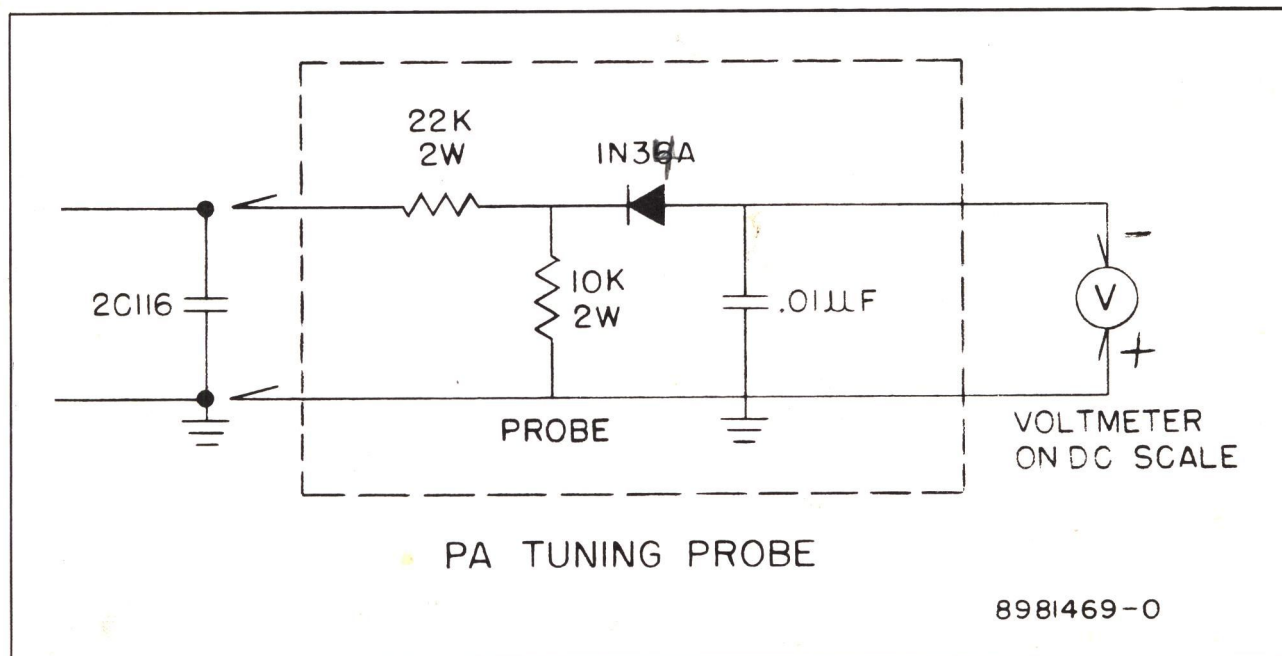

Figure 11—PA Tuning Probe
1. Using the components supplied in MI-34610, item 9, construct a tuning probe according to the schematic diagram, Figure 11. Connect the probe